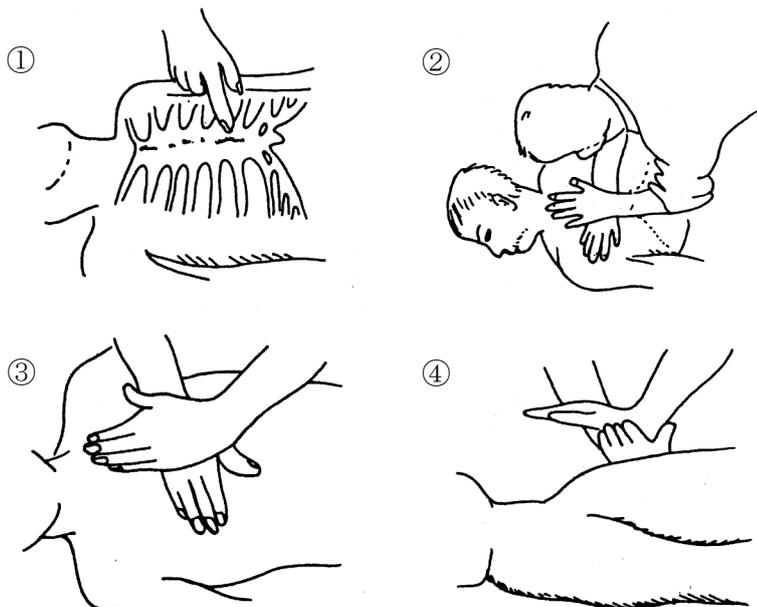

Fig.2 Cardiac massage
* Performing cardiac massage - Fig. 2